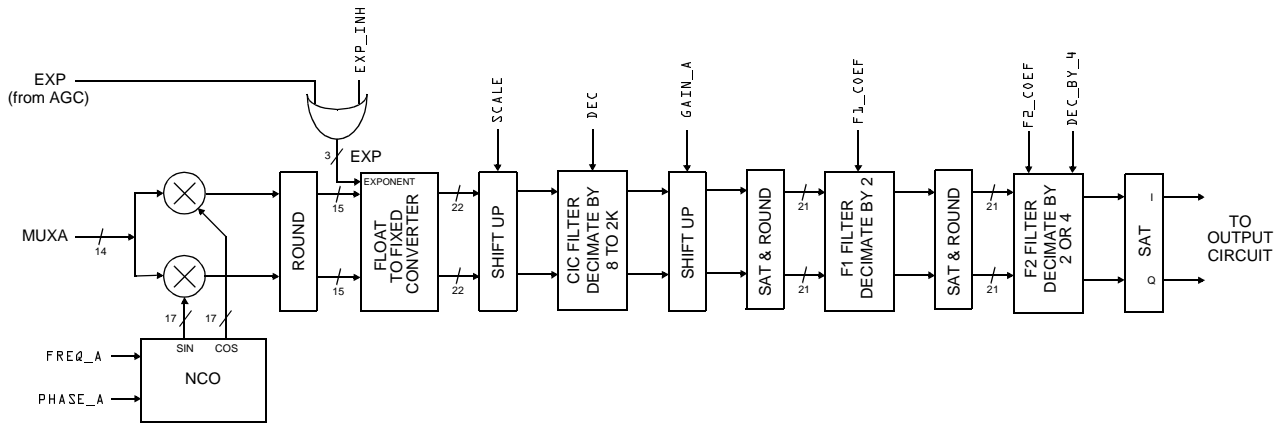

Figure 5 CLC5902 down converter, channel A.
The ADC outputs feed into the two channel DDC/AGC. This part consists of two down converter channels (DDC) and automatic gain control (AGC) loops. The DDC performs the final mix to baseband and baseband filtering (see Figure 5).
**Channels Page - Freq** is the frequency of the NCO. You can either enter the IF frequency at the ADC input or the aliased frequency at the ADC output. To down-convert without a phase inversion, enter the negative of the frequency of interest. For example, an IF frequency of 150.03MHz requires an entry of -150.03 for no phase inversion. An alternative is to recognize that 150.03MHz aliases to -5.97MHz when **FCK** is 52MHz and, for no phase inversion, enter +5.97. **FCK** refers to the sample rate of the DRCS Board, which has a factory default of 52MHz. **Scale** refers to the bit shift prior to the CIC filter (Figure 5). **Scale (Calculated)** is calculated by the program and is the value required of **Scale** to maintain the gain of the DDC up to and including the CIC filter to unity or just less. It changes when **CIC Decimation** changes. **Scale Adjust** is a bit shift value added to **Scale** prior to downloading to the CLC5902. You can enter either a positive or negative value with the restriction that **Scale Adjust + Scale (Calculated)** fall within the range of 0 to +44 inclusive. A warning is issued for values entered outside this range. **Gain** refers to the bit shift after the CIC filter (Figure 5).